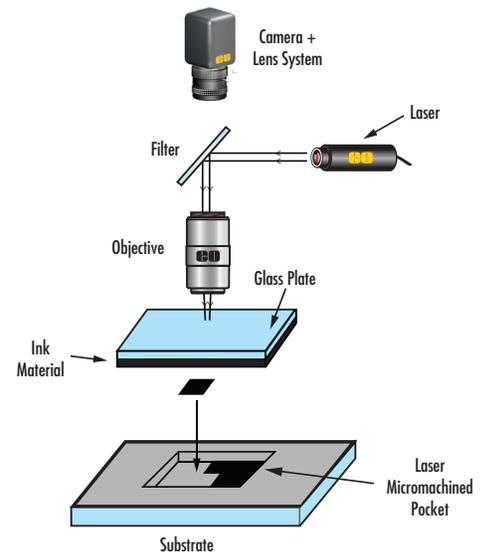

Figure 14: Typical Laser Ablation Setup
Two common uses of lasers are to (1) heat material onto a base or (2) to ablate material off of a base. Laser ablation systems require microscope components because of the precision beam manipulation (i.e. focusing, bending, scattering reduction, etc) required. A laser ablation setup typically contains custom optics, rather than off-the-shelf components, with the laser precisely designed into the system (Figure 14). The laser is oriented in an epi-illumination design to utilize the microscope objective's ability to focus light at the object plane, and to produce extremely small spot sizes with minimal aberrations. Also, an eyepiece allows the user to see where the laser is located and to make sure everything is working properly. Filters are necessary to block the laser from causing damage to the user's eye. Laser ablation setups are used in medical and biological applications because they offer higher precision than conventional surgical methods.